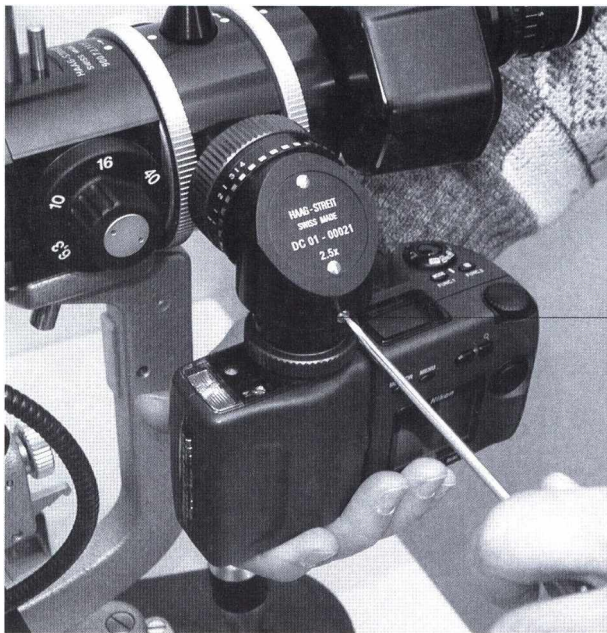

Fig. 13: Alignment screw
7. Due to the mechanical tolerances, the camera is generally not perfectly aligned the first time it is mounted. A misaligned camera will produced turned images. To align the camera, hold firmly with the left hand. Slightly unscrew the alignment screw (7) (one half turn is enough).
For a rough alignment orientate the camera parallel to the microscope as shown in *Fig. 13*. For a fine alignment, repeat the operation with the camera turned on. Rotate the camera until the images observed through the camera and the eye-pieces have the same orientation. Firmly tighten the alignment screw (7).